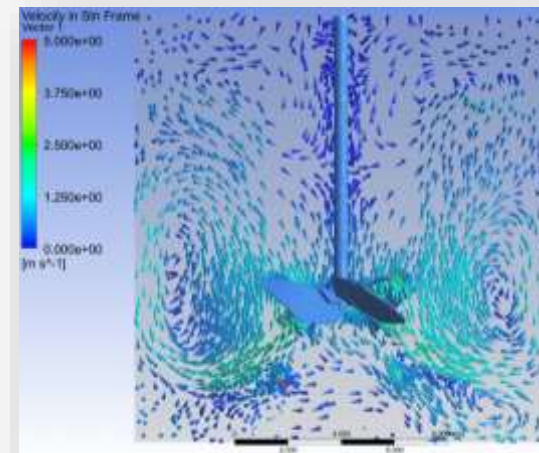

Figure 3. velocity vector at symmetric plane (x=0)
**Figure 3.** Contour of air volume fraction at symmetry plane section ( $<0.0001 \text{ m}^3 \text{ air/m}^3 \text{ water}$ ) ( $\text{DO} \leq 0.02 \text{ (mg/Lit)}$ )